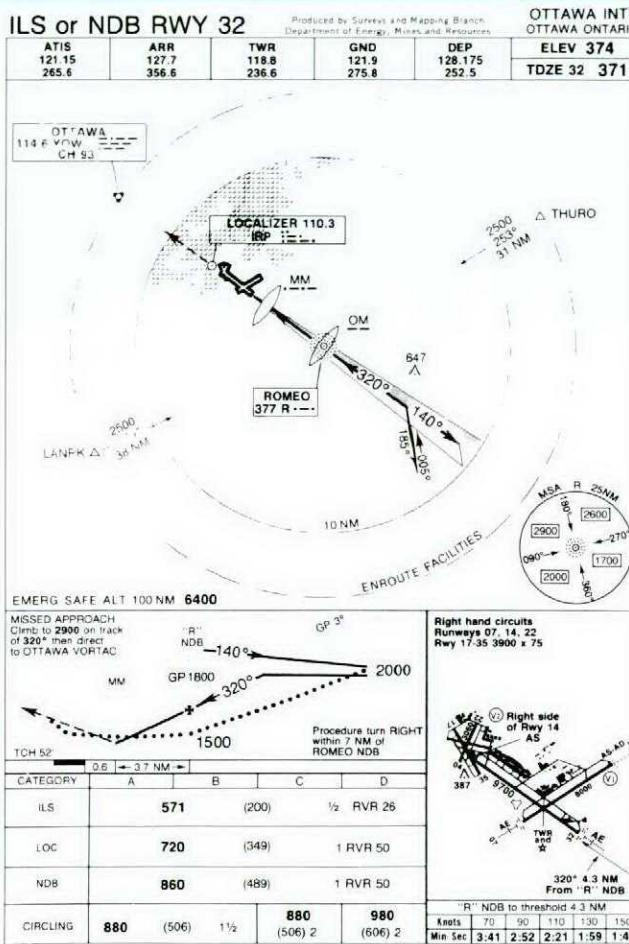

Figure 5
Transitions were originally introduced to approaches to provide a transition from an enroute navigation aid to the primary approach aid upon which the procedure turn was based (Fig 5). In recent years the use of transitions has become more common as planners attempted to expedite the traffic flow. To accommodate this change, at some locations an intermediate fix (IF) has been established on the final approach course, and